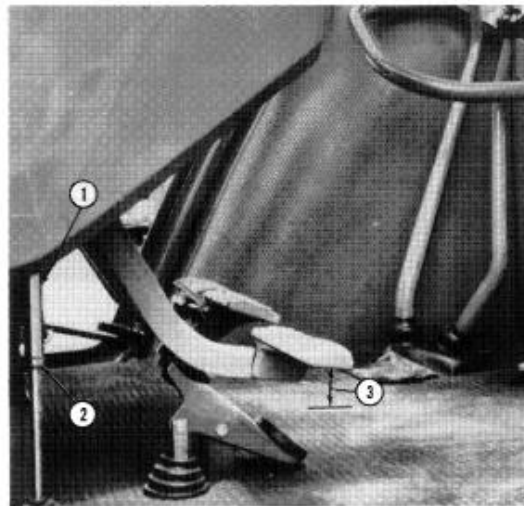

Figure 124
Adjust the clutch pedal free travel at the first 25 hours of operation at the first 50 hours of operation and then every 300 hours thereafter following the procedure outlined below. For maximum clutch life maintain 1-1/8-1-5/8 inch (28-41 mm) pedal free travel as shown at (3), Figure 124. Free travel is the distance the pedal can be moved before resistance is encountered.
1. To adjust, loosen the lock nut (2) on the control rod.
2. Turn the turnbuckle (1) as required to obtain pedal free travel of 1-1/8-1-5/8 inch (28-41 mm). Tighten the lock nut.